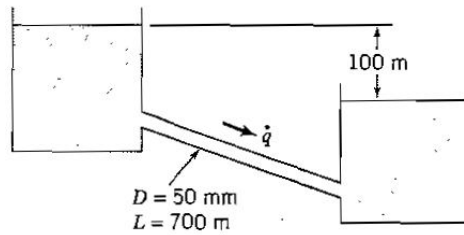

Figure P8.17
8.17 Figure P8.17 shows a pipeline connecting two reservoirs through which water flows at a rate of $\dot{q}\text{ m}^3/\text{s}$. The pipe is 700 m long, it has a diameter of 50 mm , and it is straight. If the friction factor for the pipe is 0.001 and the loss coefficients for the pipe entrance and exits are 0.5 and 1.0 respectively, find \dot{q} , given that the difference in height between the surfaces of the two reservoirs is 100 m .